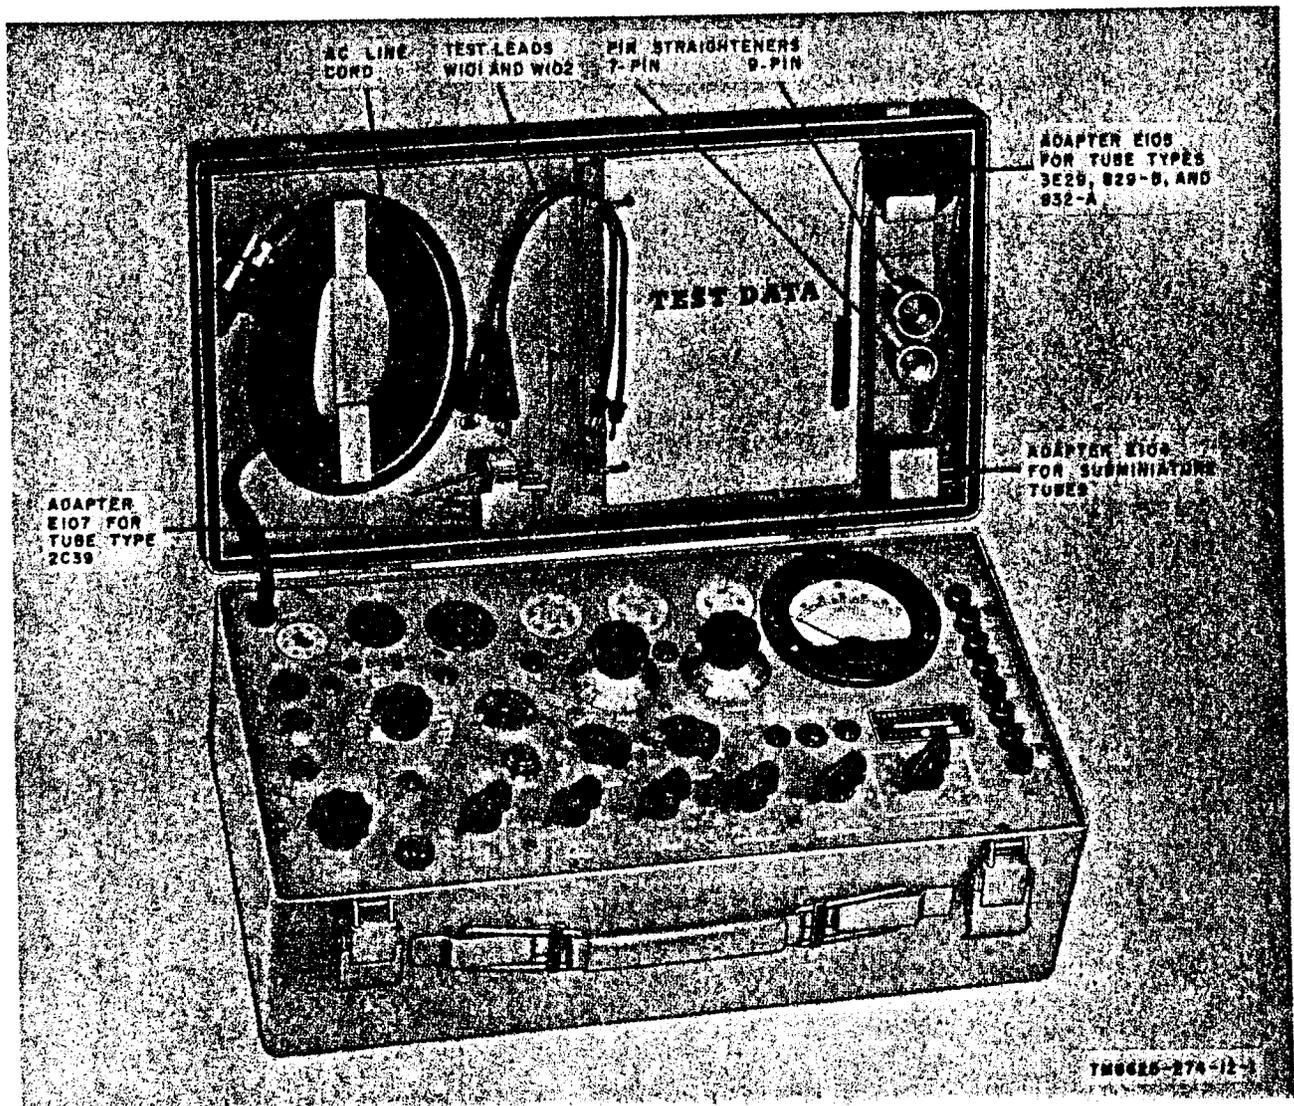
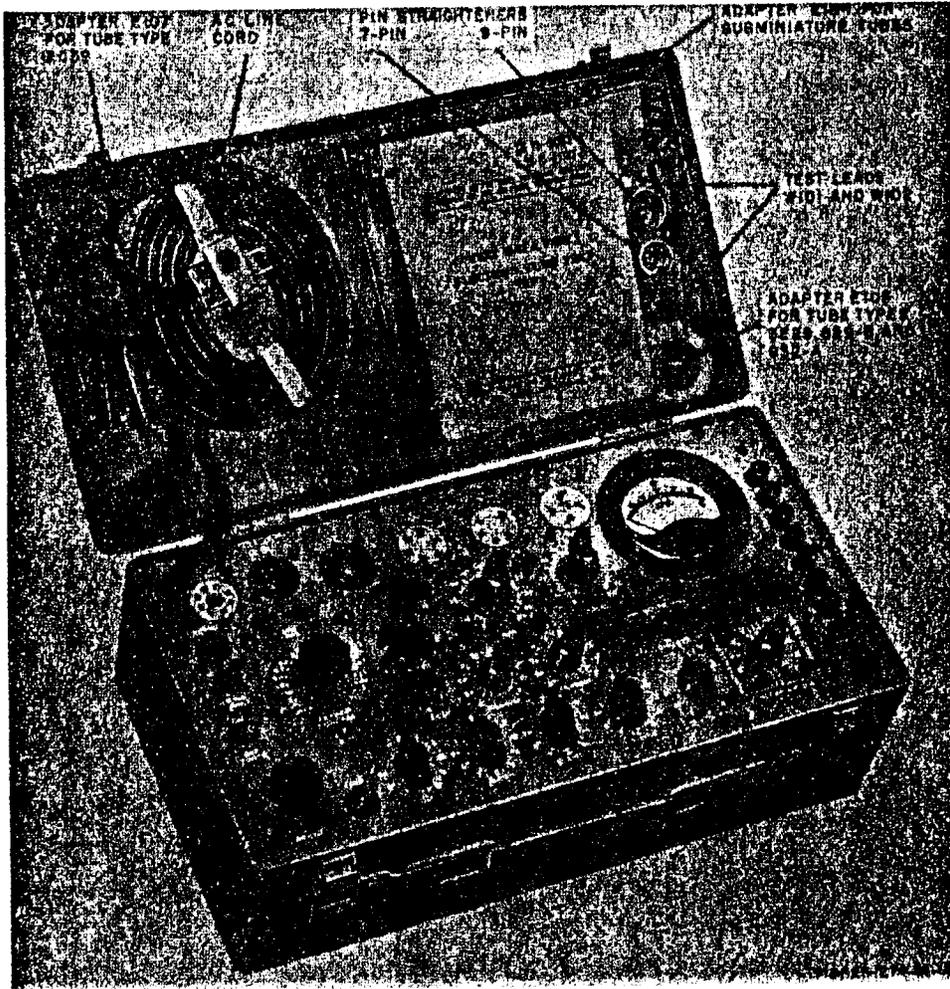
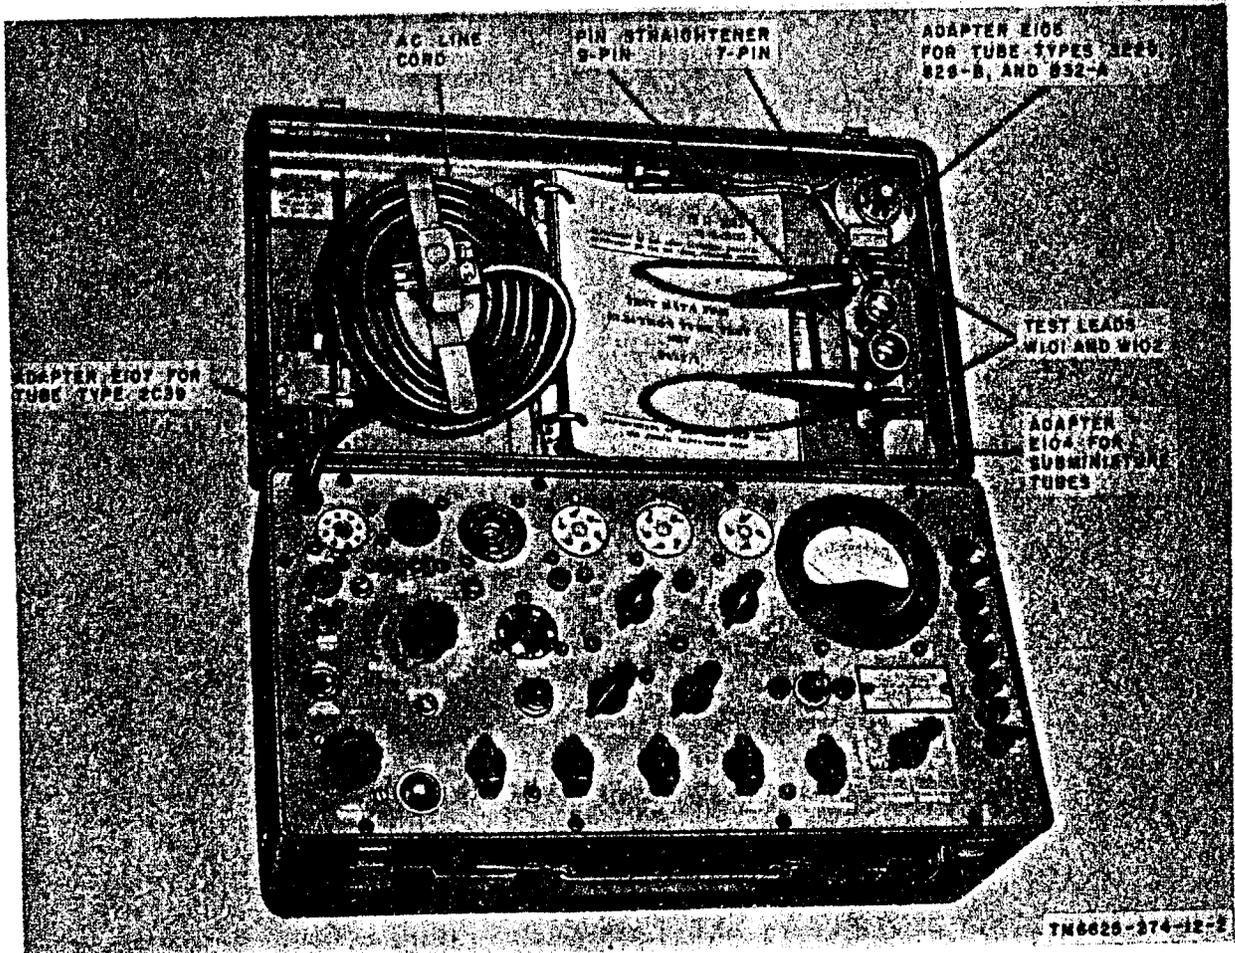
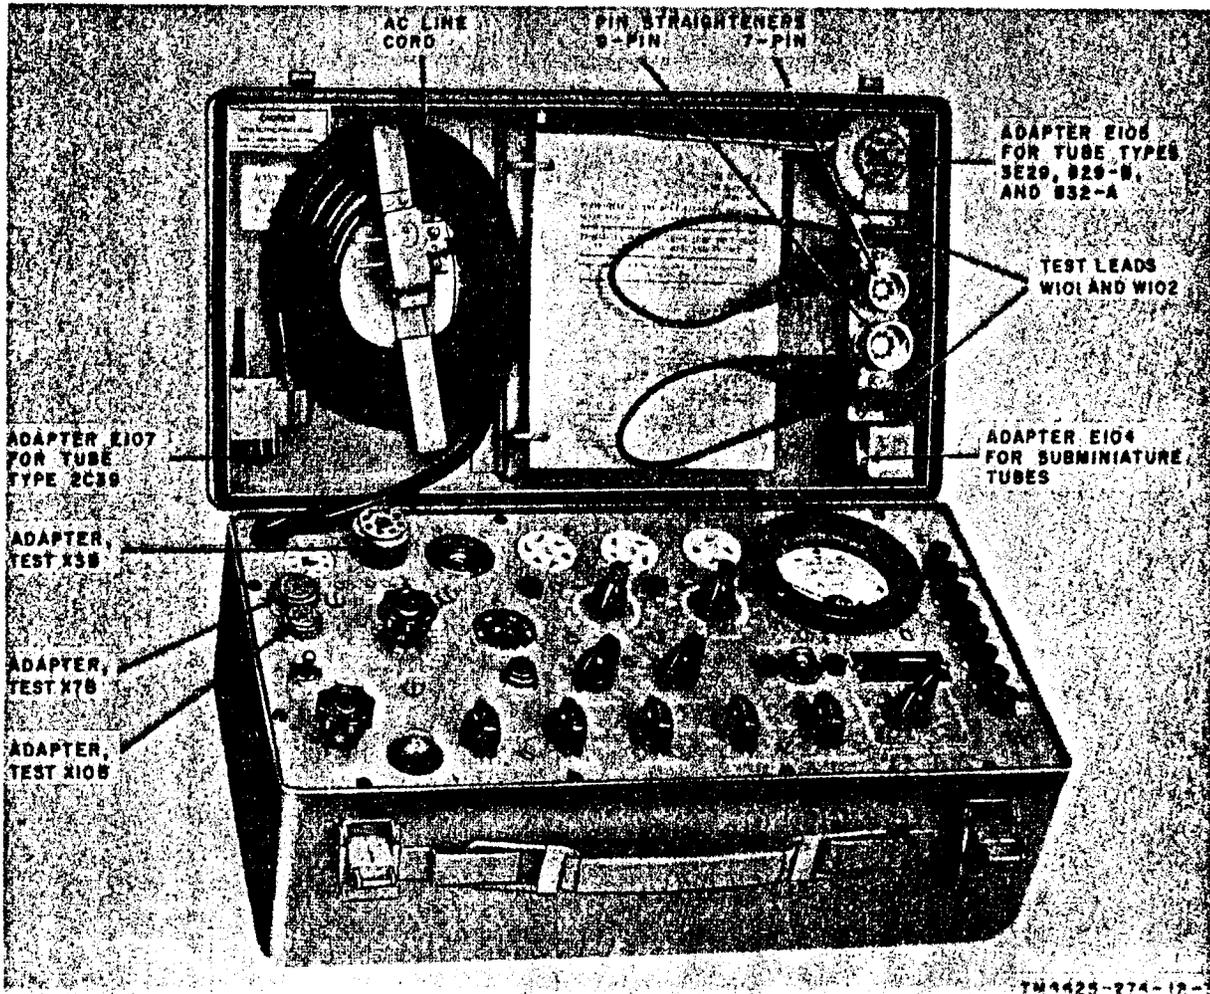

Figure 1. Test Set, Electron Tube TV-7/U, less running spares.
Figure 2. Test Set, Electron Tube TV-7A/U, less running spares.
Figure 3. Test Set, Electron Tube TV-7B/U. less running spares.
Figure 4. Test Set, Electron Tube TV-7D/U, less running spares.
a. This manual describes Test Sets, Electron Tube TV-7/U (fig. 1), TV-7A/U (fig. 2), TV-7B/U (fig. 3), and TV-7D/U (fig. 4), and covers installation, operation, and first and second echelon maintenance. It includes in-